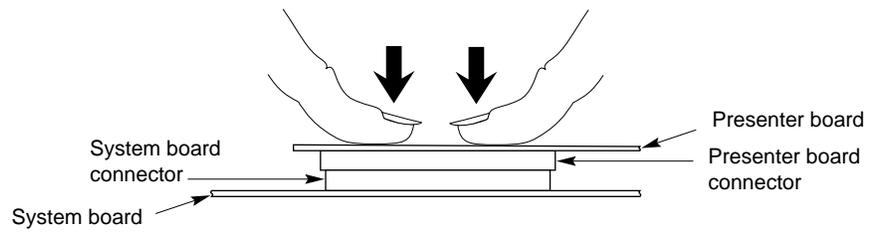

Figure 3-4 Seating the Presenter 1280 Board's Connectors
6. Press to seat the Presenter 1280 board's connectors into the graphics board's connectors, as shown in Figure 3-4.